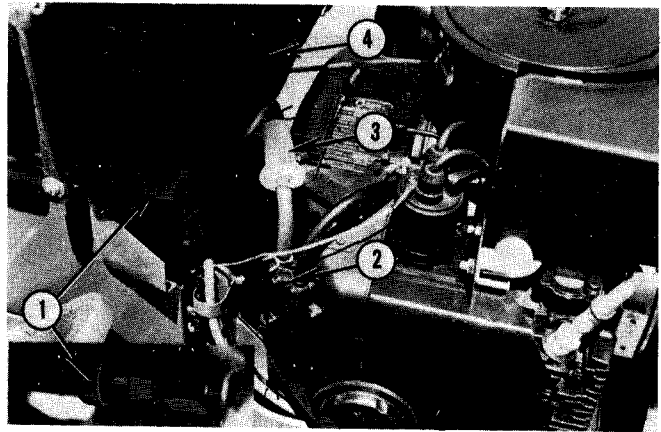

Fig. 9 — Fuel Shut-Off Location
4. If there are traces of dirt, water or other contaminants in fuel, as visible through transparent case containing in-line filter, No. 3, Fig. 9, close fuel shut-off valve, No. 1, and remove and replace in-line filter. Make certain valve is open at least two full turns before attempting to start engine.